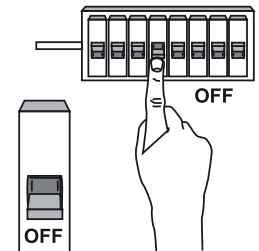

Fig. 2
- To avoid possible electric shock, turn off the power at the main fuse or circuit box (Fig. 2).